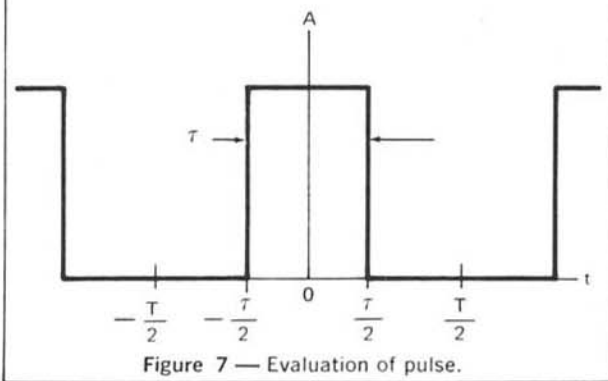

Figure 7 — Evaluation of pulse.
The value of c_n can be found for this waveform by assigning the proper values to Equation (5) and performing the indicated integration. This may be done by examining a single pulse and assigning values as shown in Figure 7.
Viewing the pulse train as shown in Figure 7 allows Equation (5) to be written as: